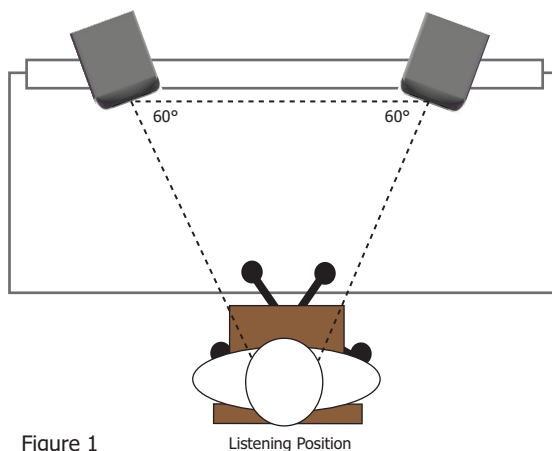

Figure 1
**Close-Field Configuration** – In a control room situation, the monitors are often times placed on the meter bridge or in a close-field listening position. Initial placement starts by measuring out a simple equilateral triangle (all three sides equal in length) with the apex at the center of the listening position (as shown in Figure 1) as an “overlay” for the stereo installation. In this configuration, the Left and Right monitors are each placed at a  $60^\circ$  angle, equidistant from the listening position.